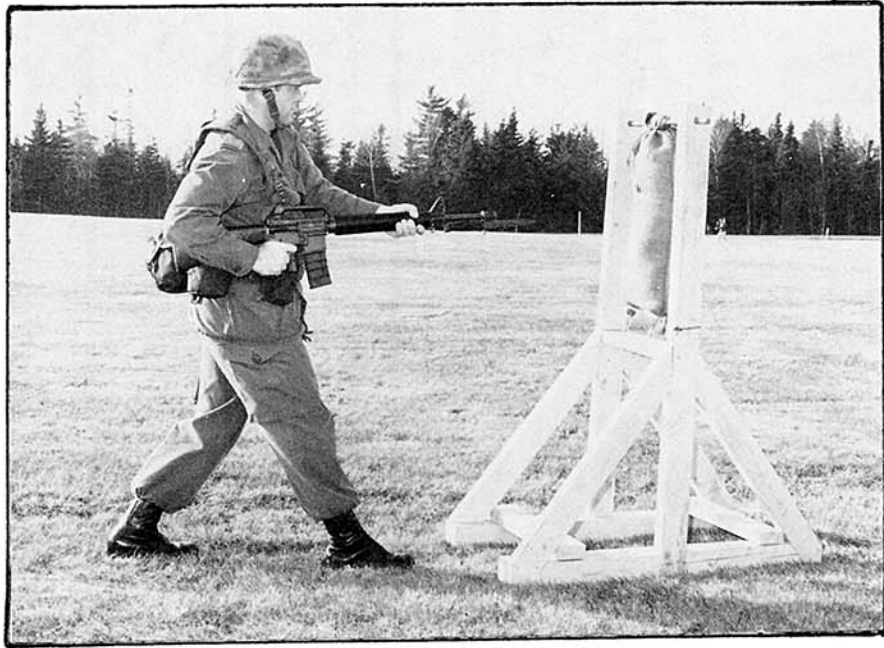

Figure 2-44 On Guard
4. ON GUARD Position. See Figure 2-44. Explain and demonstrate.